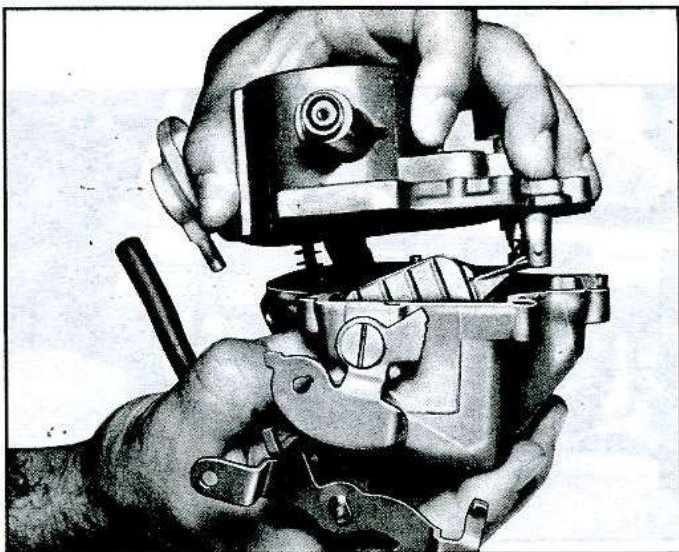

Fig. 3—Removing Bowl Cover
4. Remove bowl cover attaching screws then remove cover assembly (fig. 3).